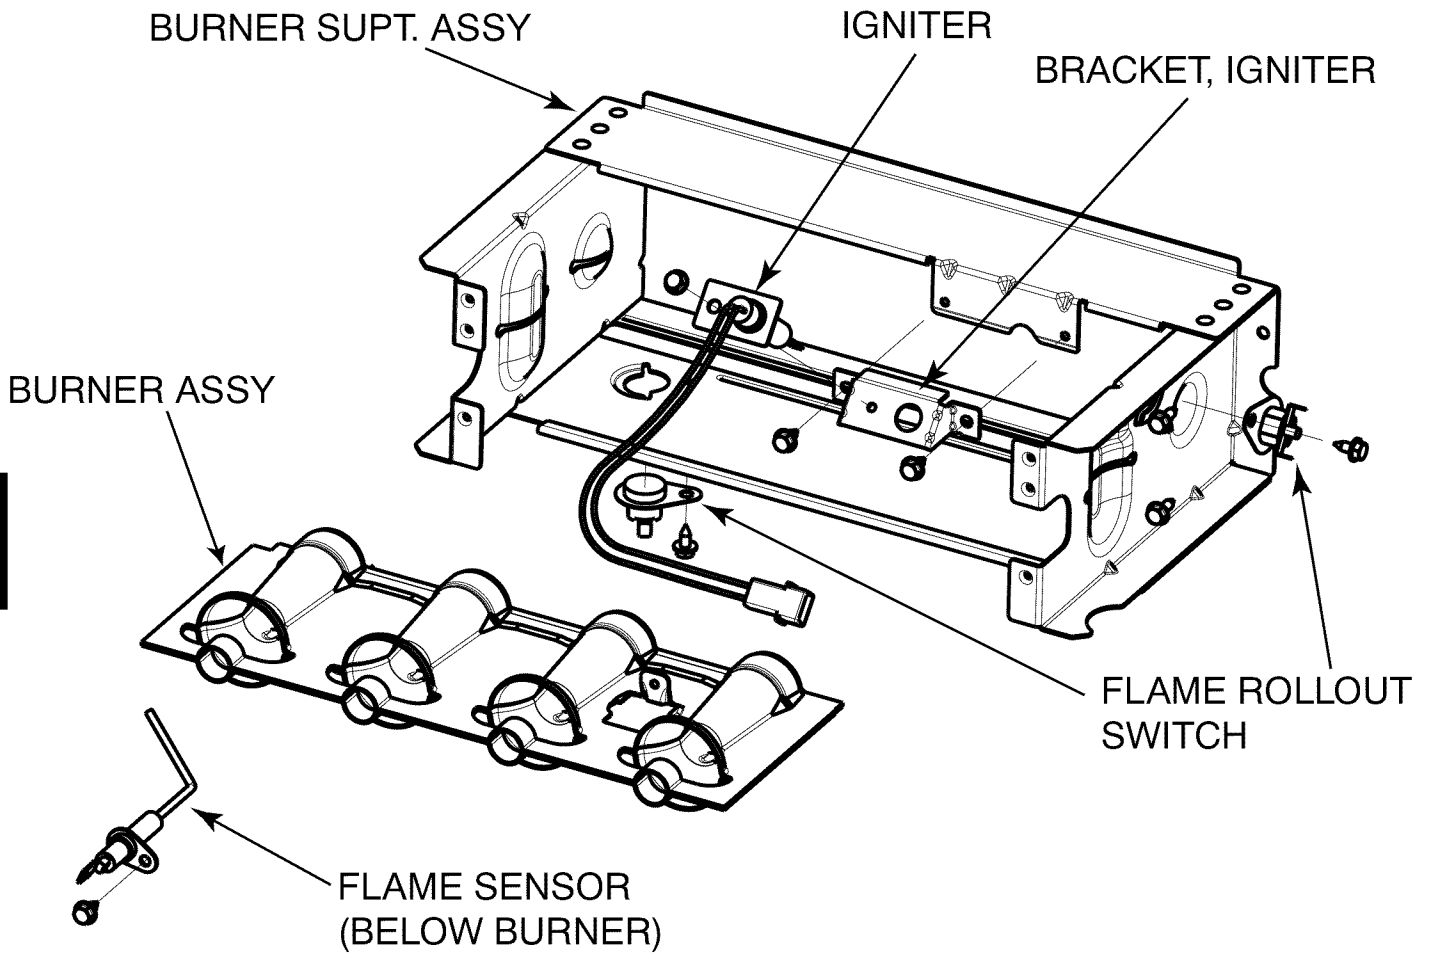

Fig. 61 - Burner Assembly
6. Remove screws attaching burner assembly to cell panel. (See Fig. 61.)